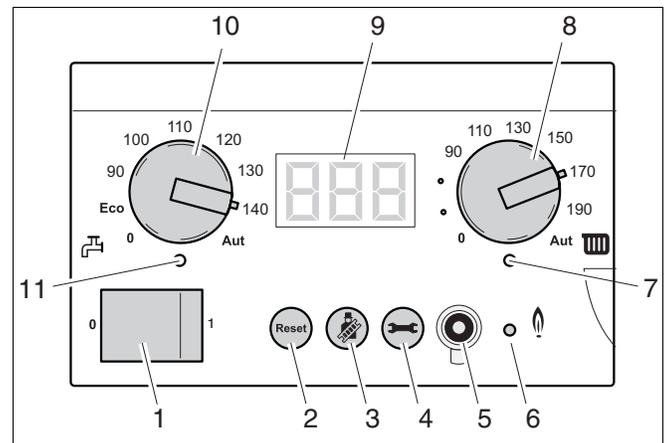

Fig. 58 BC10 basic controller
- Switch ON the heating system by pressing the main switch of the BC10 basic controller (fig. 58, pos. 1).
- Press and hold the "Chimney sweep" button (fig. 58, pos. 3) (approx. two seconds), until the dot in the right-hand bottom corner of the display (fig. 58, pos. 9) appears. See also table 8, "Flue gas test", page 41.
- After the LED "Burner operation" (fig. 58, pos. 6) has lit up wait for one minute until the boiler is burning at full load.